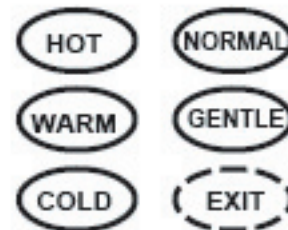

Fig. 5-2
4. With the keypad depressed, as indicated in Figure 5-2, measure the ribbon cable test points, and you should obtain a reading of between 0 to 100 ohms.